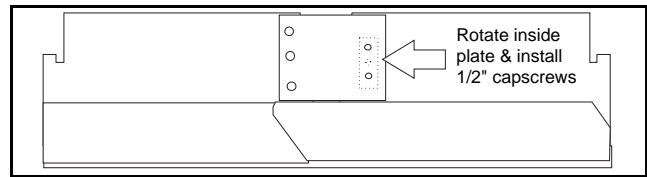

Figure 28
- 3) Loosen nut on cover plate of left inside upper screed frame and rotate plate 90° as shown in Figure 28.